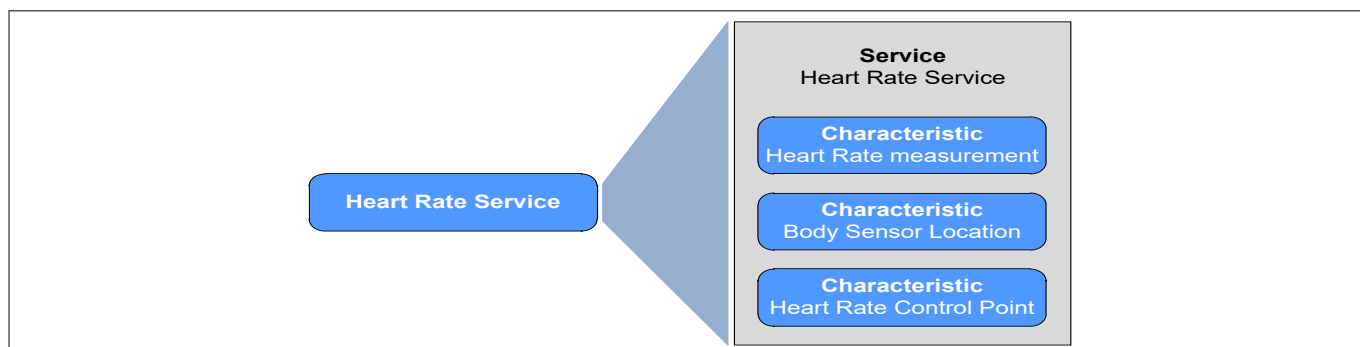

Figure 66 Bluetooth® LE Heart rate service example
- **Service:** The type of attribute that defines a function performed by the GATT Server. A service is a collection of characteristics and can include other services. The concept of a service is used to establish the grouping of relative data and provide a data hierarchy. See Figure 66 for an example of a Heart Rate Service (HRS).